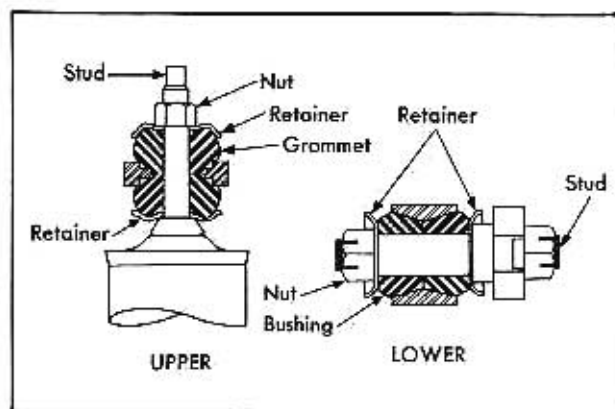

Fig. 6-25 Rear Shock Absorber Bushing Installation
4. To install, reverse the above procedure, being sure the cupped shaped retainers are installed with the convex side next to the bushing, Fig. 6-25, and nuts are tightened to insure proper compression of the rubber bushings.